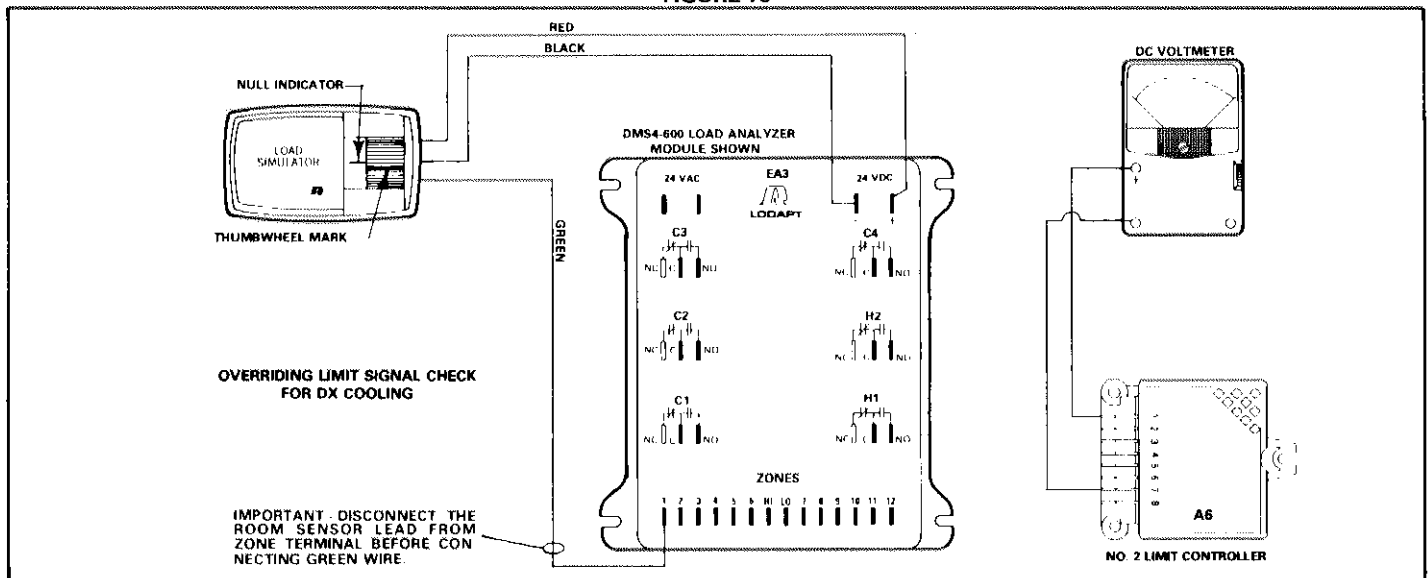

FIGURE 74
- 1 - Connect DC voltmeter negative lead to terminal #7 of limit controller (A6) and positive lead to terminal #1 of limit controller (A6). See Figure 74.